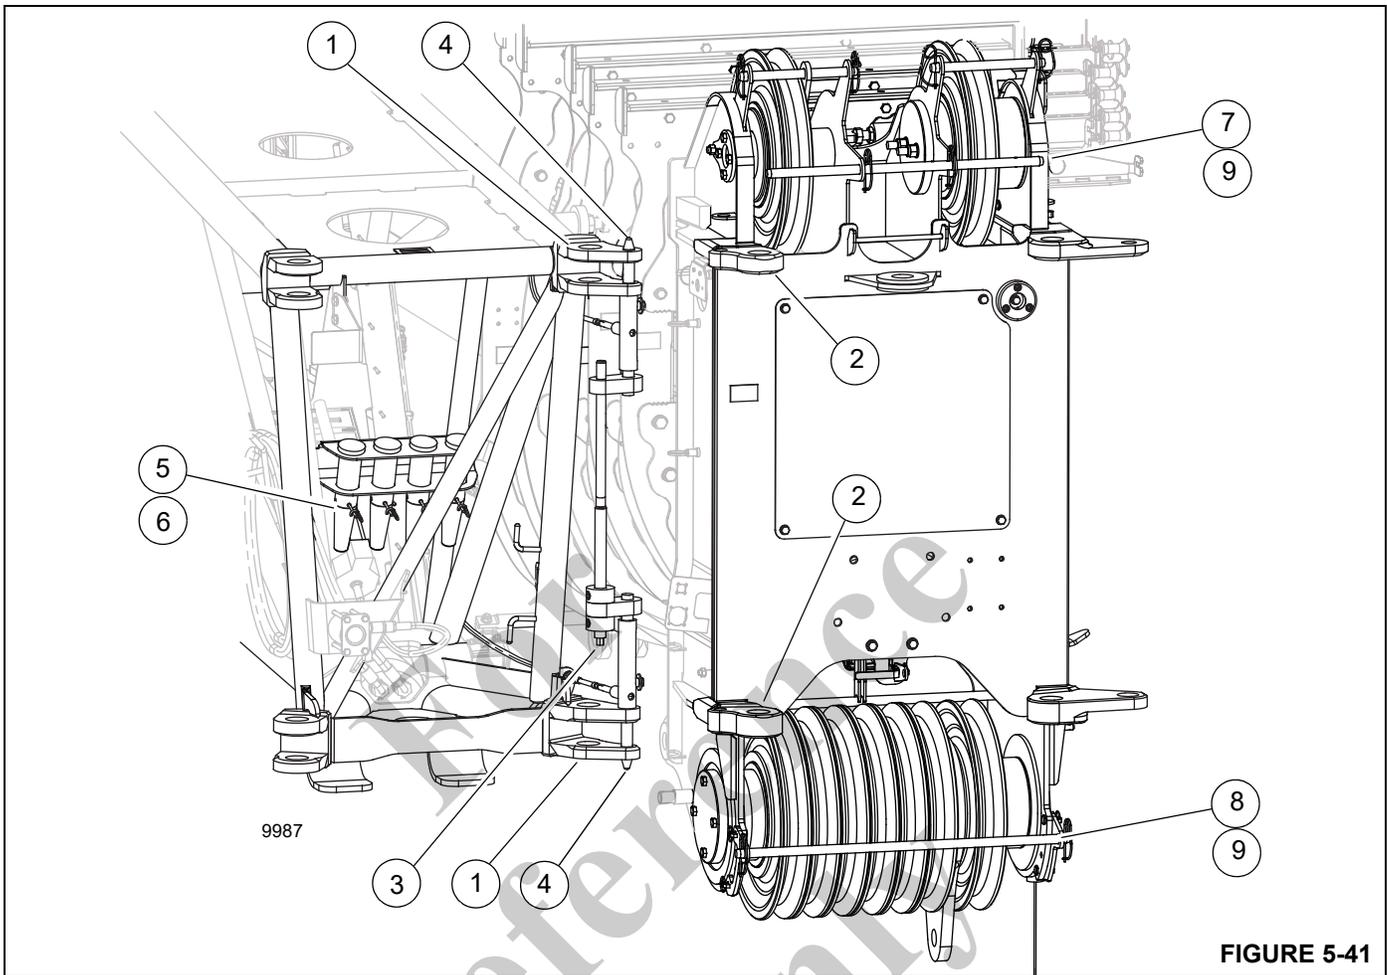

FIGURE 5-41
6. If necessary, turn the jack screw (3, Figure 5-41) counterclockwise to retract the boom extension installation pins (4) using an impact wrench, extension, and 14 mm socket.
8. Raise and lower the boom extension as necessary to align the boom extension anchor fittings (1, Figure 5-41) with the boom nose attachment lugs (2). Align and secure the boom extension installation pins (4) in the holes in the boom nose using an impact driver, turning the jack screw (3) counterclockwise.
10. Remove pins (5, Figure 5-41) and retaining clips (6) from the stowage bracket. Secure the boom extension to the boom nose using four pins (5). Secure the pins (5) with retaining clips (6). If necessary, remove the upper (7) and lower (8) hoist rope rods and retaining clips (9) to install the pins (5). Use the jack as necessary to install the fourth pin as necessary as follows:
- b. Operate the jack handle (2) to align the holes on the boom extension with the hole in the boom nose.
- b. Lower the mast assembly (2) until the connecting holes are aligned.
- c. Insert pin (4) and secure with retaining clip (3).
12. Remove four retaining clips (6, Figure 5-41) and pins (5) from the boom extension anchor fittings and main boom attachment fittings. If necessary, remove the upper (7) and lower (8) hoist rope rods and retaining clips (9) to install the pins (5). Secure the pins (5) and retaining clips (6) in the holder on the boom extension.
13. Using the tag line, swing the boom extension on to the rear ramp so the boom extension installation pins (4, Figure 5-41) align with the holes in the main boom attachment fittings (2).
14. With an impact wrench and 14 mm socket extension, turn the jack screw (3, Figure 5-41) counterclockwise to extend the boom extension installation pins (4) into the boom nose attachment fittings (2). The jack screw drive will bottom out when the pins are fully engaged. Verify that the pins (4) are fully engaged and that the bolts and washers are at the end of the slots.
To avoid death or serious injury, ensure boom extension installation pins (4, Figure 5-41) are installed prior to retracting the front mounting pin (Pin #2).